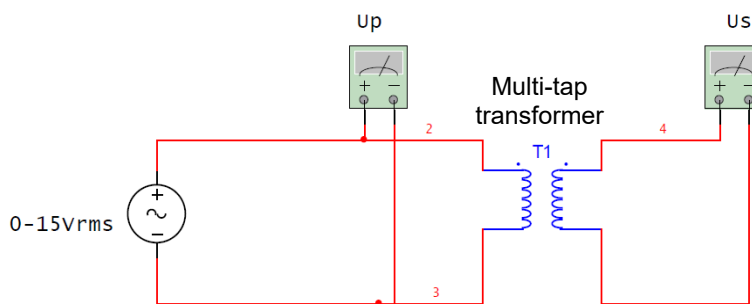

Figure 3: Experimental setup for transformer
- Connect the experimental set-up as shown in Figure 3. This connection is open circuit test of a transformer.